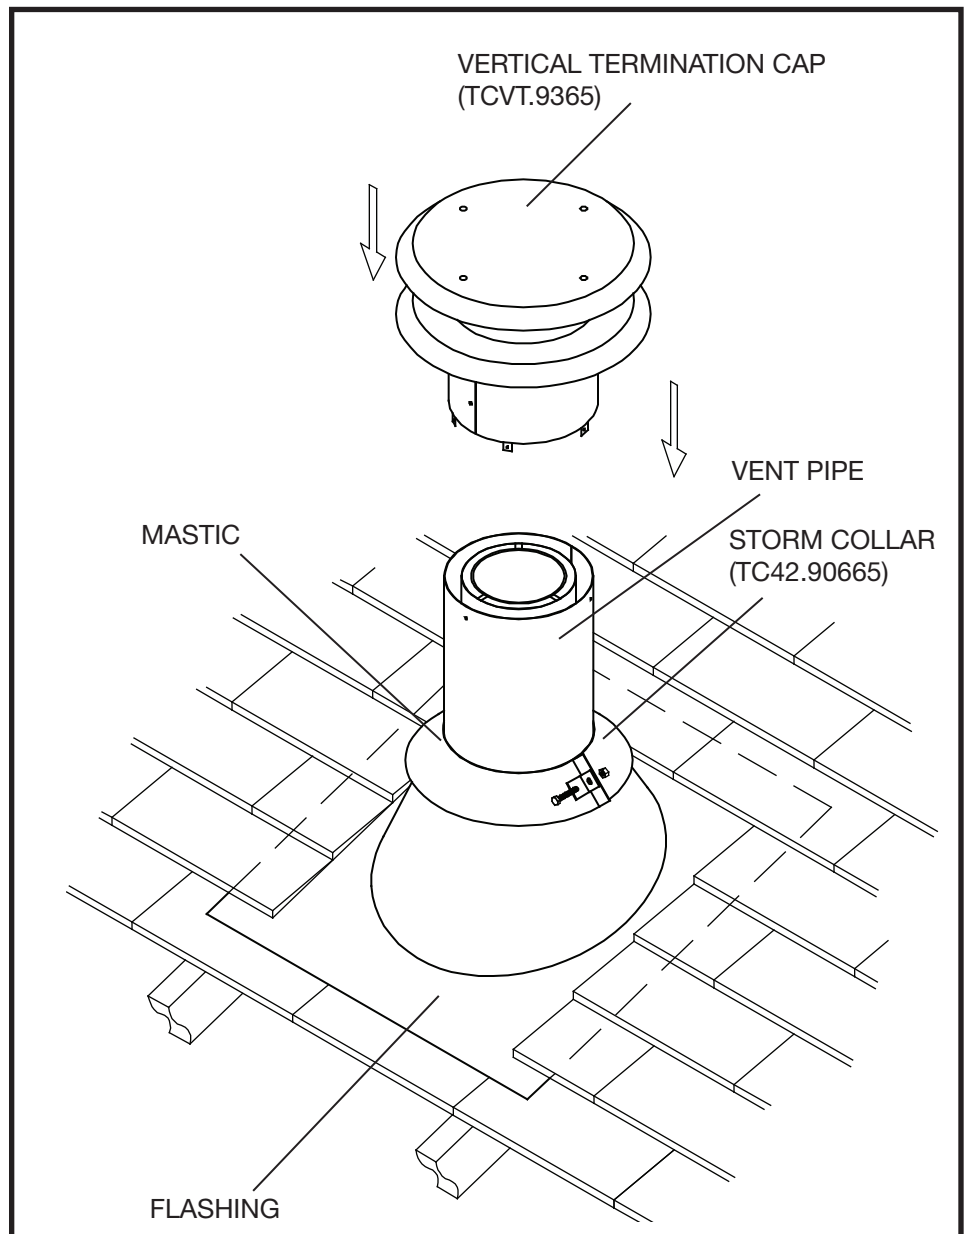

Figure 38: Roof vent terminal.
1. Place the roof flashing over the vent pipe, secure and seal it to the roof using the methods and materials appropriate for the type of roof on the building. Shingle roof example shown (Figure 38).
2. Place the storm collar down over the vent pipe until it is level. Tighten storm collar for a snug fit. Apply a thick horizontal ring of mastic around the pipe at top of the storm collar (Figure 38).
3. Lower the roof vent terminal cap over the vent pipe and secure in place with screws provided (Figure 38). Seal screw heads and joints with caulking to prevent any moisture entering the venting system.